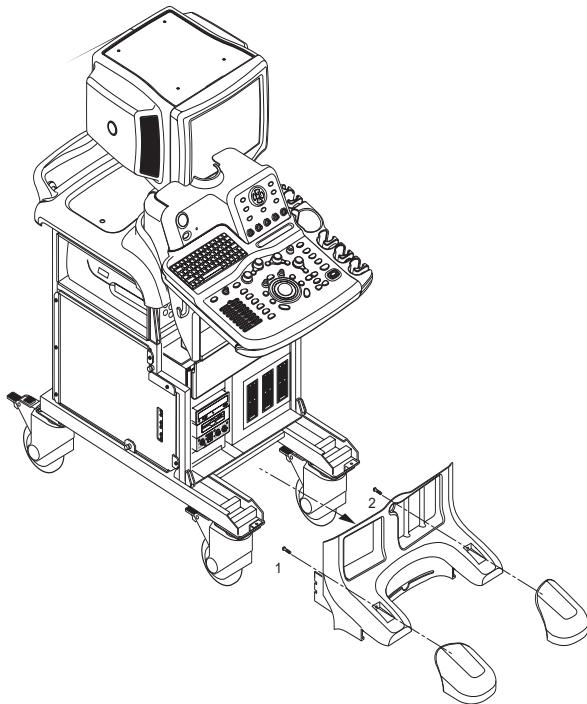

Figure 8-77 Removing the Bumper Set
- 6.) Remove the Bumper Set. Refer to Figure 8-77.